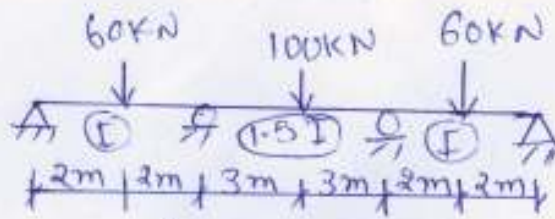

Figure-2
- Q.2** (a) Draw bending moment diagram for the beam as shown in **figure-2** using moment distribution method. **07**